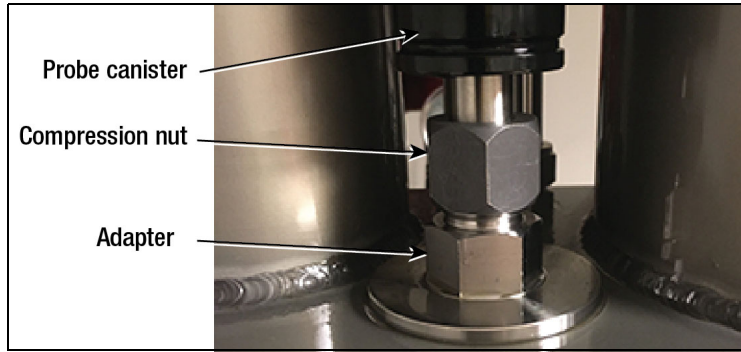

Figure 2.
6. Using a wrench, loosen the 1-1/4" Adapter nut (see Figure 2), then carefully lift the old Mag Probe and float assembly out of the Fuel Conditioner opening.